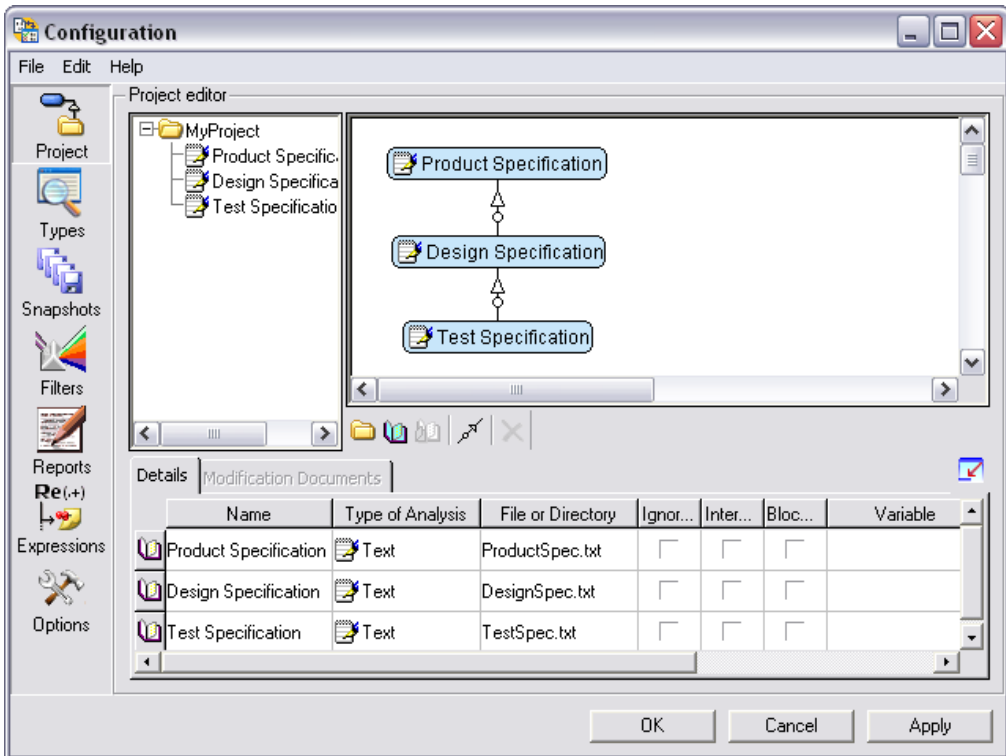

Figure 3-8. Two Levels of Covering Documents in Project
7. Click the **Add a cover** button to begin adding a covering link. Click the **Test Specification** document and then click the **Design Specification** document to create an arrow between the two documents, as shown in Figure 3-8.